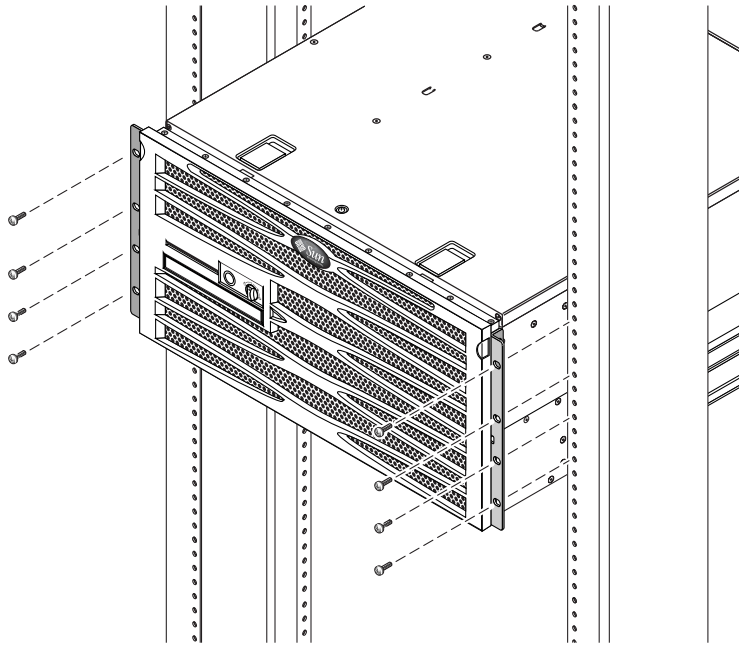

FIGURE 3-4 Securing the Front of the Server to the Rack
7. Using four screws per side, secure the front hardmount brackets attached to the sides of the server to the front of the rack (FIGURE 3-4).